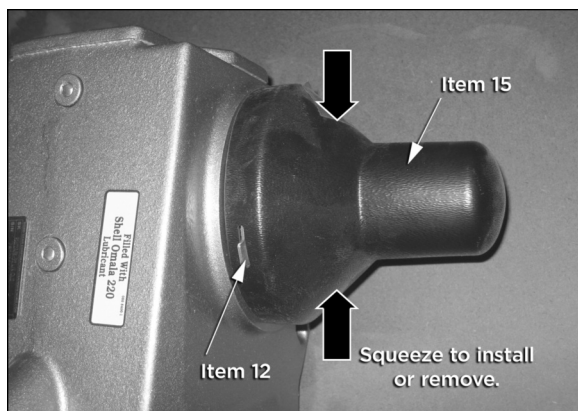

Figure 15
13. Carefully squeeze the sides of the assembly shield (item 15) and place the assembly shield onto the tabs, aligning the slots of the assembly shield with the tabs of the mounting clip, to fully cover the threading of the agitator shaft and knob. See Figure 15.